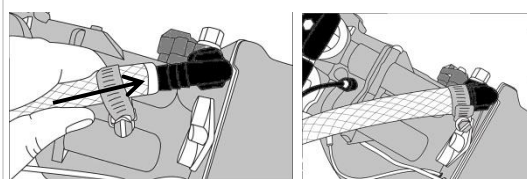

Fig 4
- Attach the drain hose (15 ft included) to the drain fitting and secure it with a hose clamp (fig 4) (included).